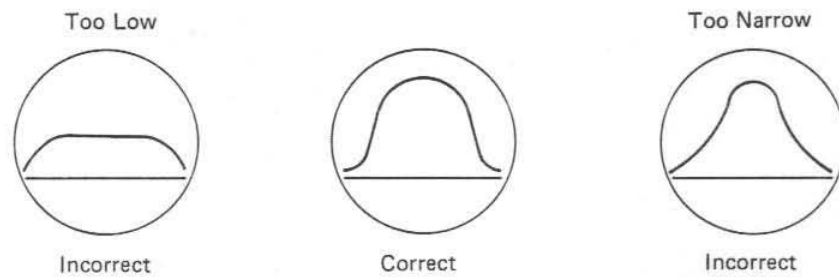

Figure 3.
6. Adjust upper core of "FT5" for highest, widest and round top response as shown in Fig 3 (Since ceramic filters are used in the IF circuit, ignore 10.7 MHz center marker in the above alignment).